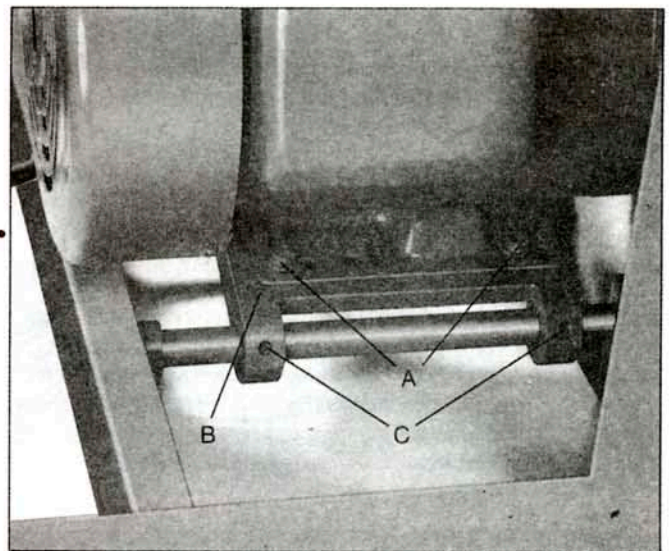
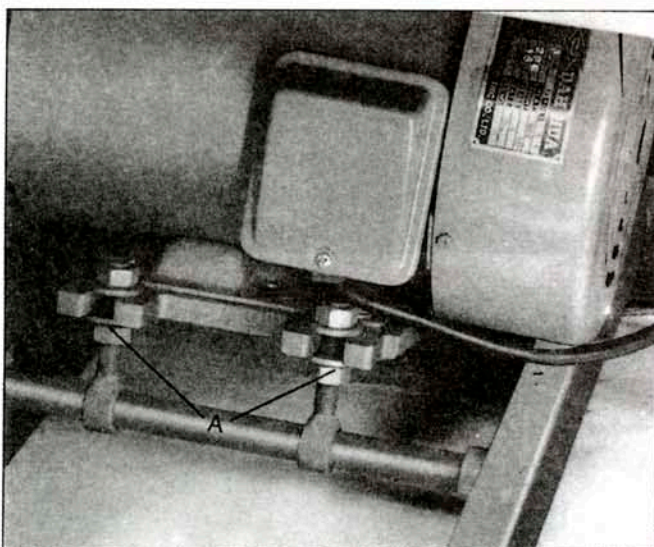
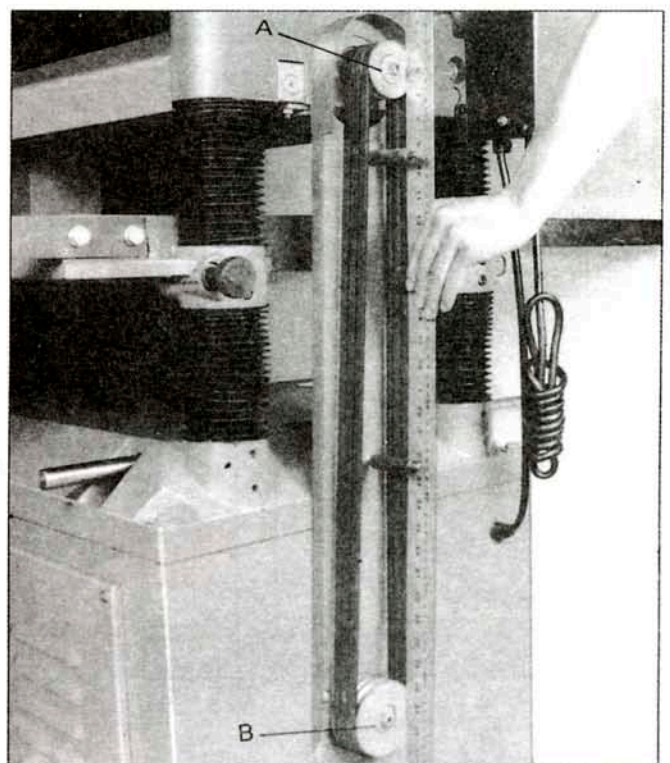

Fig. 10
Fig. 12
Fig. 11
2. Assemble the motor to the motor mounting plate, as shown in Fig. 10
NOTE: It is very important that the motor must be mounted to motor plate by using the mounting hardware (A) Fig. 10
3. Using a straight edge, align the motor and cutter-head pulleys as shown in Fig. 11, the motor plate (B) Fig. 10 Can be moved for alignment by loosening the set screws (C) in the motor plate (B) as shown in Fig. 10
4. Assemble the belts to the two pulleys, as shown in Fig. 11. And adjust for the proper belt tension by raising or lowering the motor plate, as shown in Fig. 12, then tighten the nuts (A) Fig. 12. Correct tension is obtained when there is approx. 1/4" deflection of the center span of the pulleys by using light finger pressure.